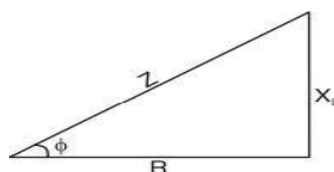

Fig. 12.5
- (ii) Power factor = $\frac{R}{Z} = \frac{\text{Resistance}}{\text{Impedance}}$ [See Fig. 12.5]